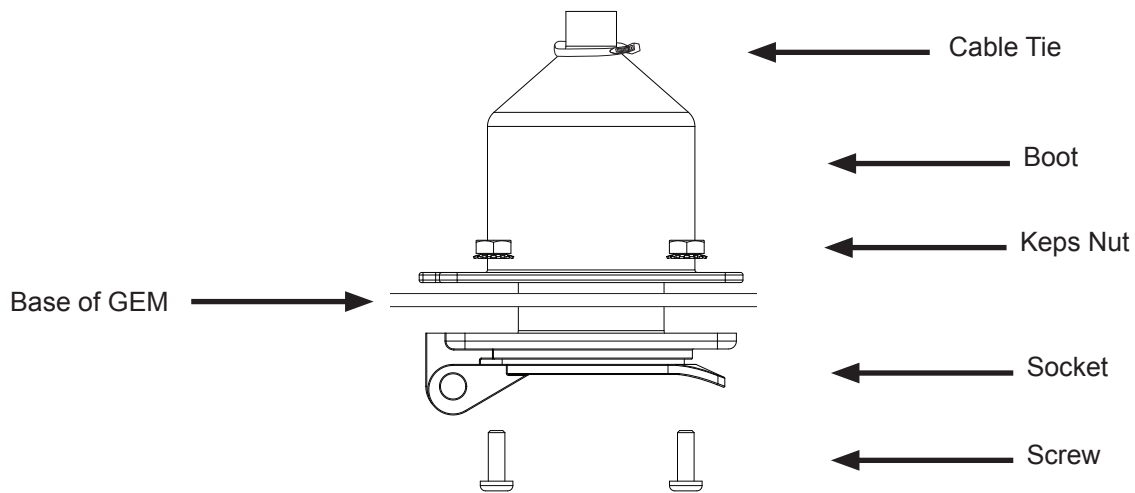

Fig. 3-6 Layout of AC Boot Assembly
2. Knock out the 2" pass through and the (4) bolting holes in the bottom of the GEM.
3. Assemble the socket and sealing gasket (See Fig. 3-6). Mount the assembly to the base of the GEM using the screw and nuts provided.